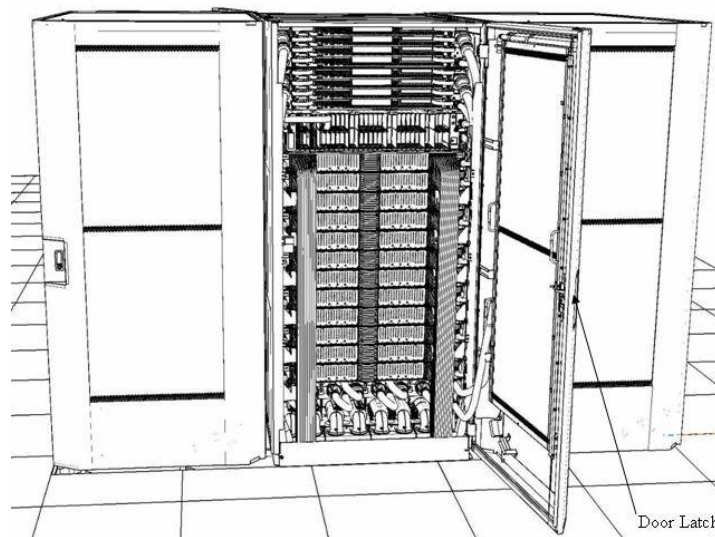

Figure 4 RDHX Open
1. Open the RDHX using the rear door latch (see Figure 4 RDHX Open).